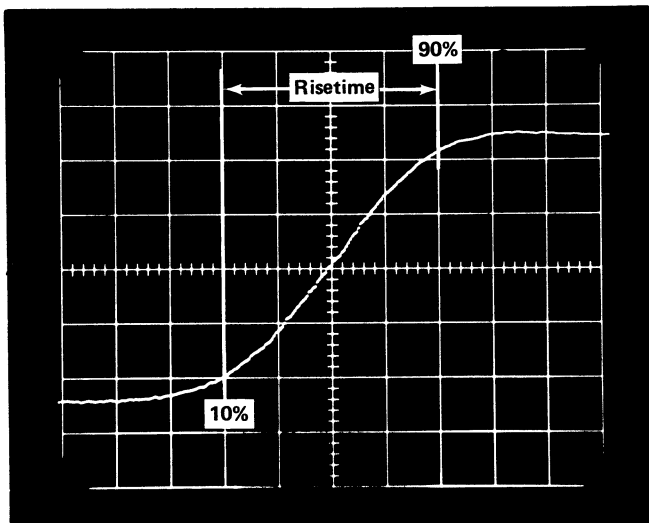

Fig. 5-4. Pulse oriented in the graticule window for risetime measurement.
1) Check the risetime of the displayed pulse for the probe, sampling amplifier and oscilloscope mainframe. Fig. 5-4 illustrates typical display orientation for measuring risetime.